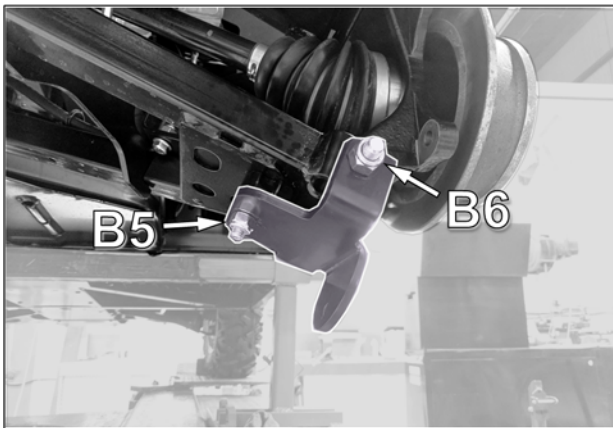

Fig. 5
6. Install the provided nuts (**B5 - B6**) on the bolts and tighten them to 50 N•m [37 lb•ft] of torque. Fig. 5